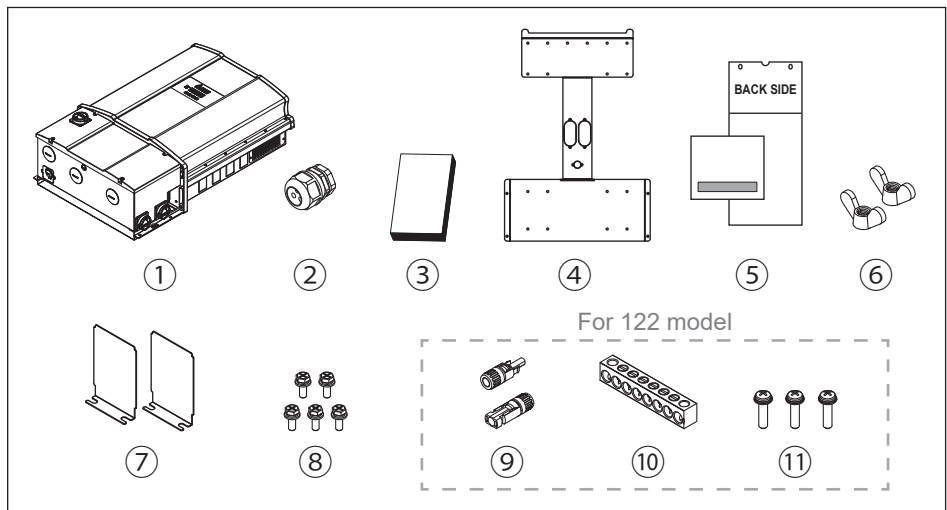
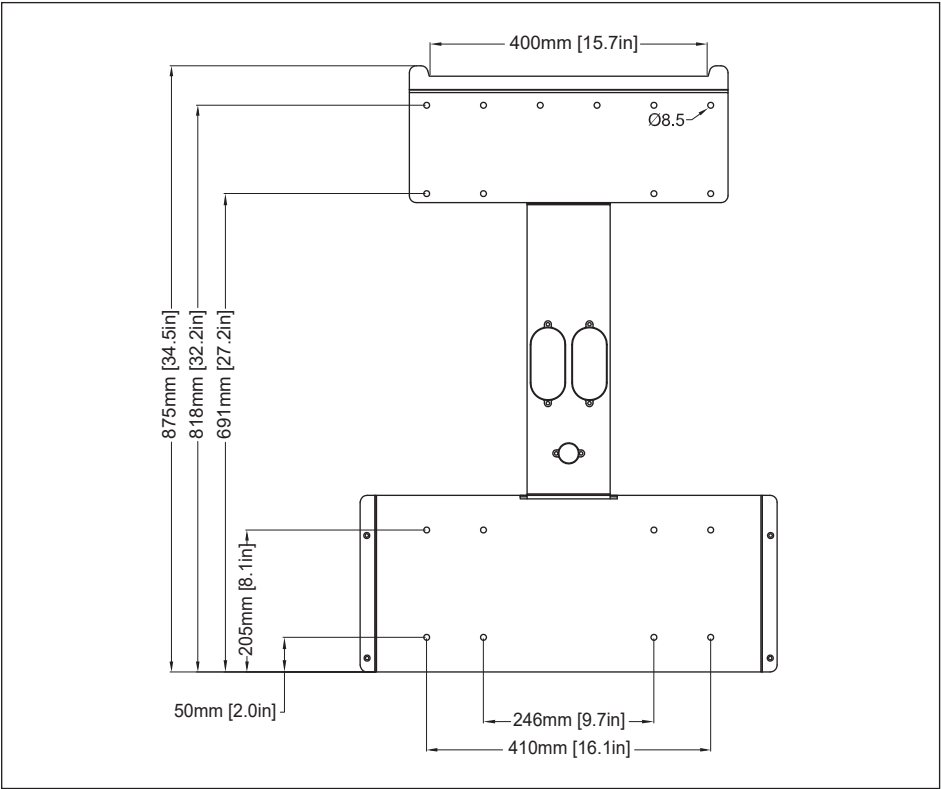
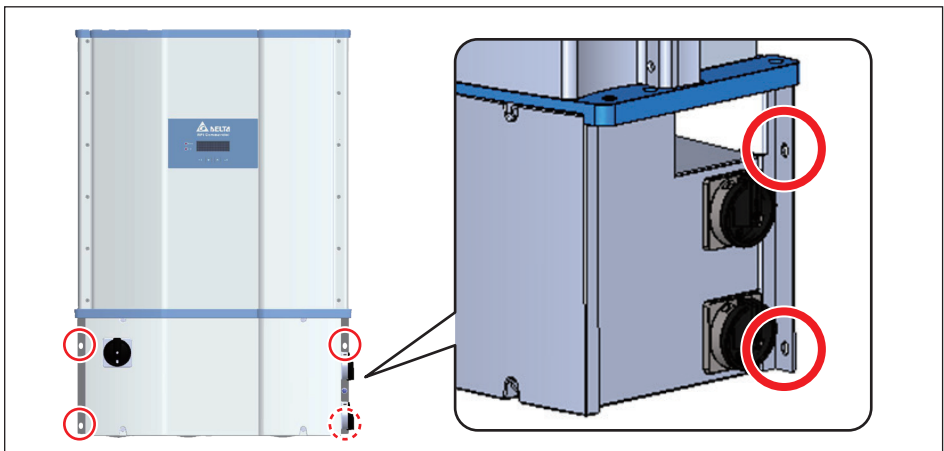

Figure 2-1: Components of M80/60U
Figure 3-2: Mounting bracket dimensions
Figure 3-9: Screw locations to secure inverter WB to wall-mounting bracket
The components of M80/60U is shown as **Figure 2-1**.
Refer to **Figures 3-2** through **Figures 3-9**.
2. Orient the wall bracket (**Figure 3-2**) horizontally (perpendicular to the floor), with the large plate at the bottom, and mark required mounting hole locations per **Figure 3-3**.
5. Secure the inverter by inserting and tightening four screws (item 6, **Figure 2-1**) as shown in **Figure 3-9**.
4. Orient the mounting bracket (**Figure 3-2**) squarely on the inverter stand, and ensure cross-supports are located in line with the mounting screws locations shown in **Figure 3-3** (horizontal case) such that they can all be secured. Mark required mounting hole locations per **Figure 3-3**.
7. Secure the inverter by inserting and tightening four screws as shown in **Figure 3-9**.
O : Permitted**Figure 3-9: Permitted mounting positions****X : Prohibited****Figure 3-10: Prohibited mounting positions****CAUTION !**
After installing the unit on the bracket, secure the wiring box to the bracket with four screws per **Figure 3-9**. Tighten the screws to a torque of 40 lbf-in (4.5 N.m)